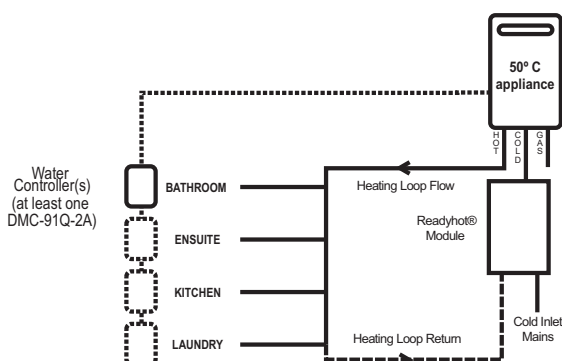

Fig.4. - 50°C Appliance
*If the water heater is marked to state that it delivers water not exceeding 50°C, local regulations may permit installation without a Temperature Limiting Device shown in Fig. 4*